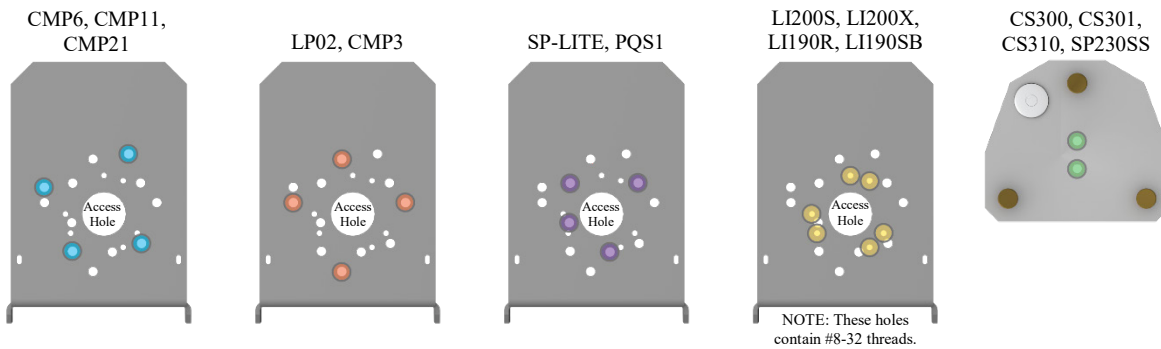

FIGURE 6-2. Mounting hole locations for solar sensors
2. Secure the solar radiation sensor to the mounting bracket. Refer to FIGURE 6-2 to determine which mounting holes are used by the sensor. Visually inspect the leveling feet on the sensor (if present) to ensure all feet are in contact with the mounting bracket.